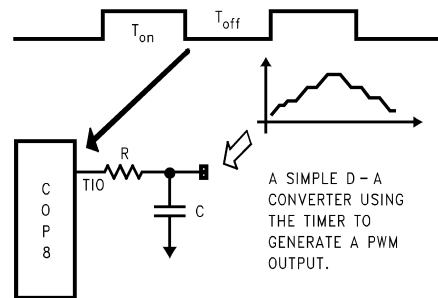

FIGURE 10. Timer Application
*Figure 10* shows how a minimal component D/A converter can be built out of the Timer-Register pair in the Auto-Reload mode. The timer is placed in the "Timer with auto reload" mode and the TIO pin is selected as the timer output. At the outset the TIO pin is set high, the timer T1 holds the on time and the register R1 holds the signal off time. Setting TRUN bit starts the timer which counts down at the instruction cycle rate. The underflow toggles the TIO output and copies the off time into the timer, which continues to run. By alternately loading in the on time and the off time at each successive interrupt a PWM frequency can be easily generated.